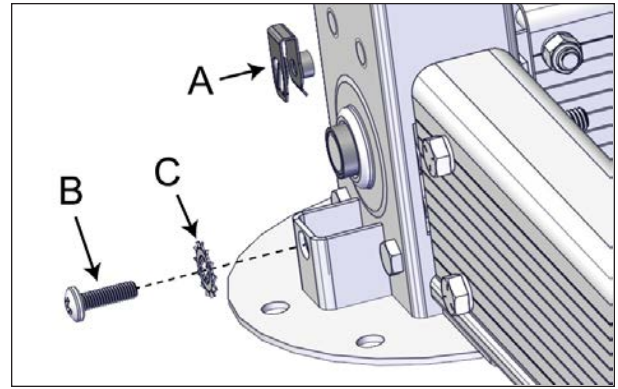

FIGURE 41: CLIP-ON BARREL NUT INSTALLATION
- Install the clip-on barrel nuts at the bottom of the non-motor-side jack assemblies to hold the sleeves in the bottom. Use Phillips M6 x 20 mm screws and 1/4" int./ext. tooth lockwashers. Only the non-motor-side jack assemblies need clip-on barrel nuts to be installed, see Figure 41.